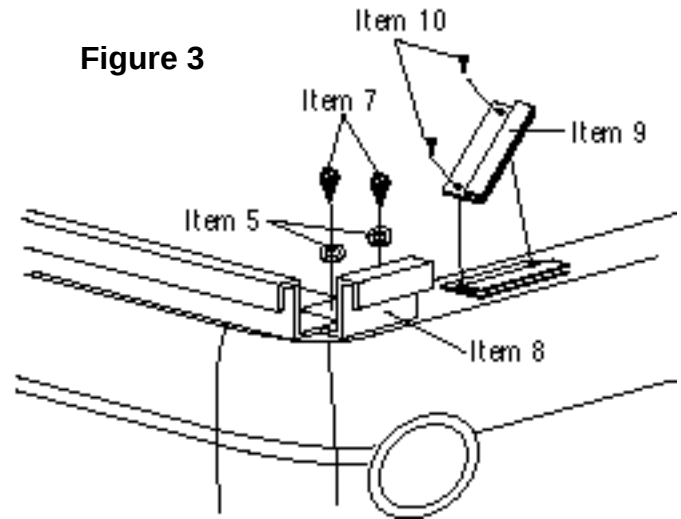

Figure 3
Step 3. Tailgate Clip. Align notch in rear body aluminum (Item 8) with notch in rear belt rail. Using rear body aluminum as a template mark and drill 5/32" holes. Secure to body with #14 x 1/2" sheet metal screws through 1/4" flat washers (Item 5), rear body aluminum and into body. Measure 3/4" from rear body aluminum and mark a line. Measure 3/4" from inside body edge and mark a line. Place tailgate clip (Item 9) on these lines, making sure that tailgate clip remains parallel with inside body edge. Using tailgate clip as a template, mark and drill 1/8" holes. Secure tailgate clip to body with #10 x 1/2" sheet metal screw (Item 10). Repeat for the other side. See figure 3.
Step 4. Riser. Position riser (Item 11) on top of windshield frame and center it from side to side. Place 5/16-24 x 3/4" hex bolts (Item 12) through 5/16" flat washers (Item 13) and into threaded holes in windshield frame. On each end of the riser you will need to install horizontal rod brackets (Item 15). The large hole in the horizontal rod bracket should be to the rear and inside of the vehicle. This bracket sits on top of the mounting surface on riser and is secured with the same fasteners that hold the riser in place. If your windshield frame is not equipped with threaded holes you will need to mark and drill 5/32" holes using the riser as a template. Secure to windshield frame with #14 x 3/4" sheet metal screws (Item 14) through 1/4" flat washer (Item 5) and into windshield frame. See figure 3.